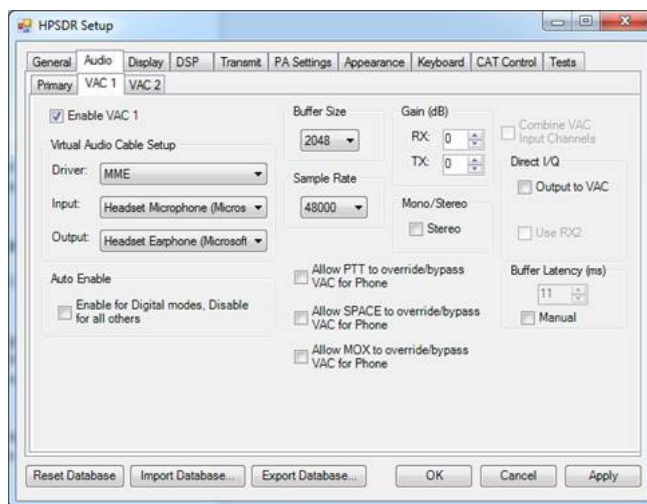

Figure 9—openHPSDR VAC1 Settings.
Step 14: open the Setup window and select the Audio > VAC1 tab. Make all settings as shown in Figure 9, which uses my Microsoft headset as an example device: